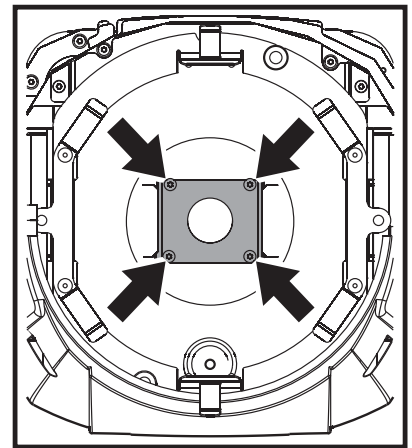

Figure 4
6. See Figure 4. Remove the four screws (arrowed) that hold the aperture plate in place inside the front of the head. See Figure 5. Remove the aperture plate and install the new aperture plate with shield plate (P/N 23819530) supplied in the Kit in its place, re-using the original four screws. The shield plate in the aperture plate must face upwards as illustrated to protect the wiring in the head from sunlight that might be focused into the head by the new front lens assembly.